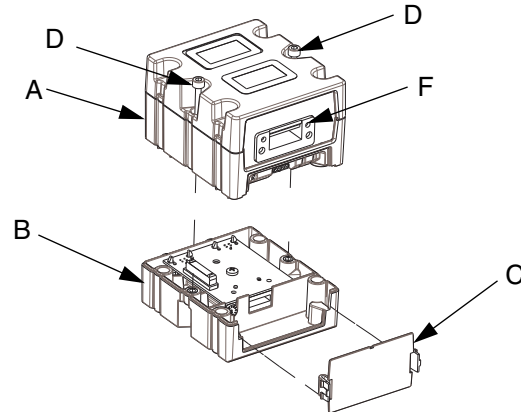

FIG. 2: CGM
7. Mount module (A) on base (B) with two screws (D). See FIG. 2.
13. Attach access cover (C). See FIG. 2.
15. Connect fieldbus cable (customer supplied) to fieldbus connector (F). See FIG. 2.